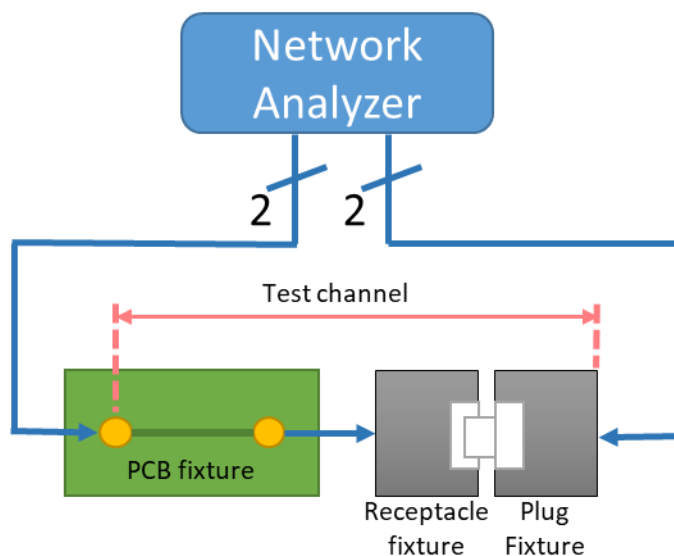

Figure 23. Test Channel measurement setup
2. Construct a Test Channel setup as shown in Figure 23